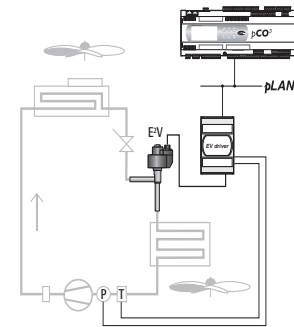

Fig. 1.2
1.2.2 pLAN connection with pCO (codes EVD000*41* and EVD000*44*) Fig. 1.2.